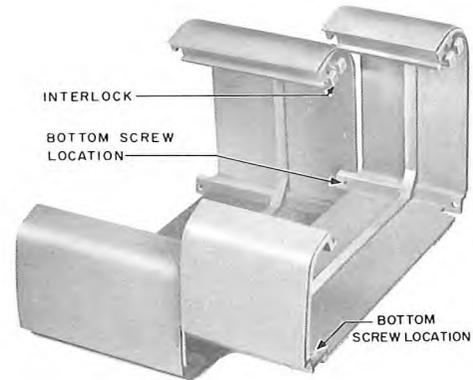

Fig. 40 – Assembly of Apparatus Cases
13.02 When more than one case is required, apparatus cases must be coupled together as shown in Fig. 40. The cases are held adjacent to each other, with the left case lower than the right case. The left case is then raised until the cases are flush; this engages an interlock assembly and holds them together at the top. Two screws must be placed at the bottom of the cases to hold the bottoms together and to secure the top interlock assembly. The ends of the apparatus cases are assembled in the same manner as are the individual cases.